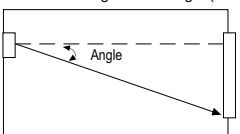

Fig 2: Angle between Wireless VITRON and glass
Verify that the distance between the Wireless VITRON and the furthest point on the protected glass does not exceed the maximum specified range taking into account the reduced range due to angle (see Fig 2).
- **Side wall Mounted -** (not recommended due to the fact that the Wireless VITRON is not opposite the glass - see range versus angle diagram (Fig 2). Test detection carefully at both ends of glass using RG-65 Tester (see fig. 6).